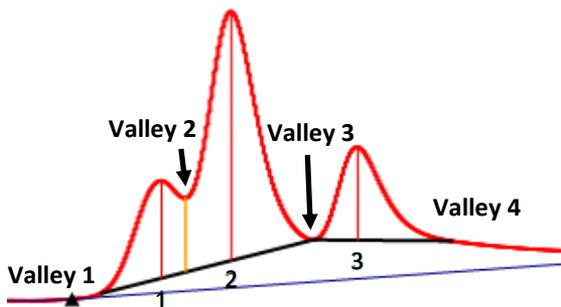

Figure 5.2.3-5: Integration of multiple peaks complete.
(Figure 5.2.3-5)
- To integrate the remaining peak (in Figure 5.2.3-5, Peak 3). Click and hold at Valley 3 and drag to Valley 4.